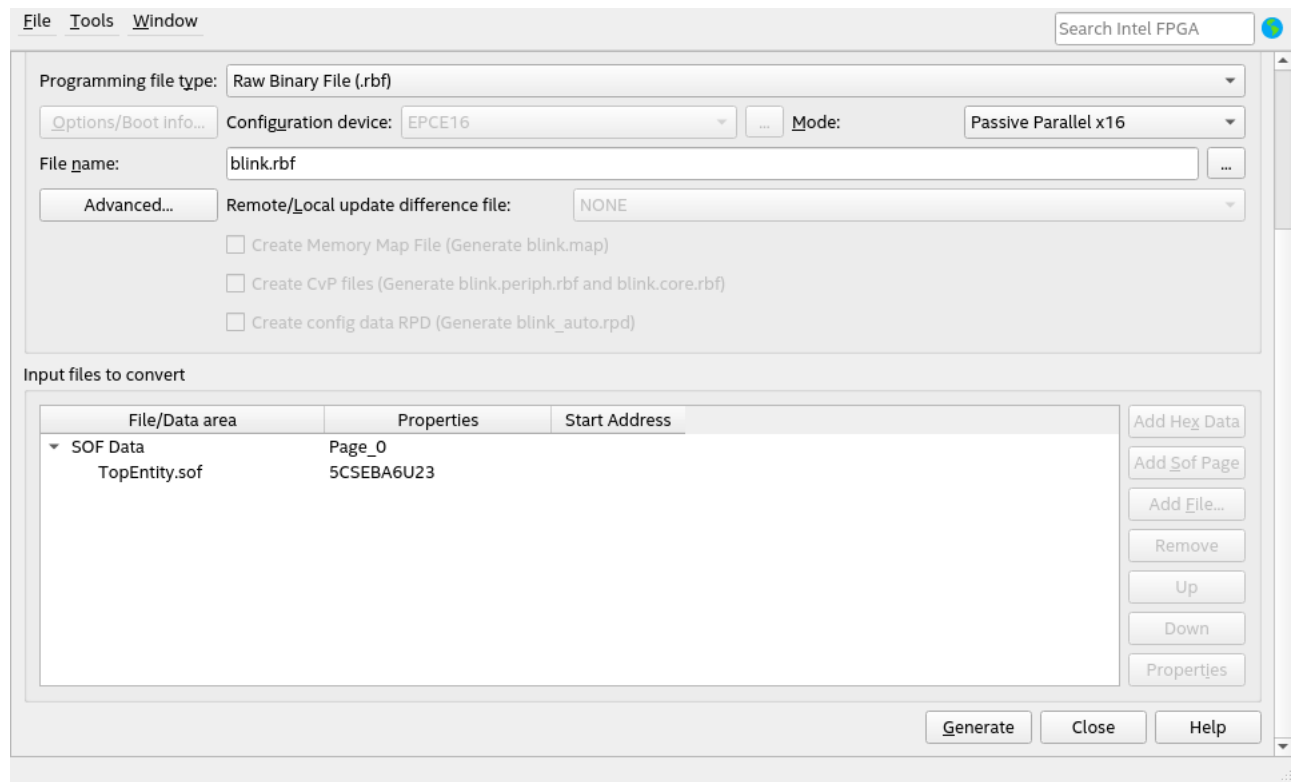

Figure 2.3: Settings to convert the output file to rbf
- Make sure the settings are identical to those shown in Figure 2.3.